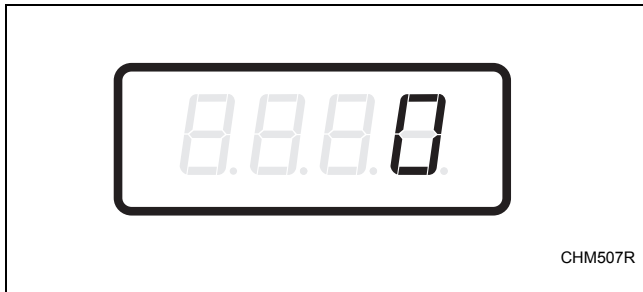

Figure 9
4. When “AtS4” appears in the display, press the START (enter) keypad. There are five digits in the Vend Price #4. The fifth digit will appear in the display and will flash one second on, one second off. Refer to *Figure 9*.